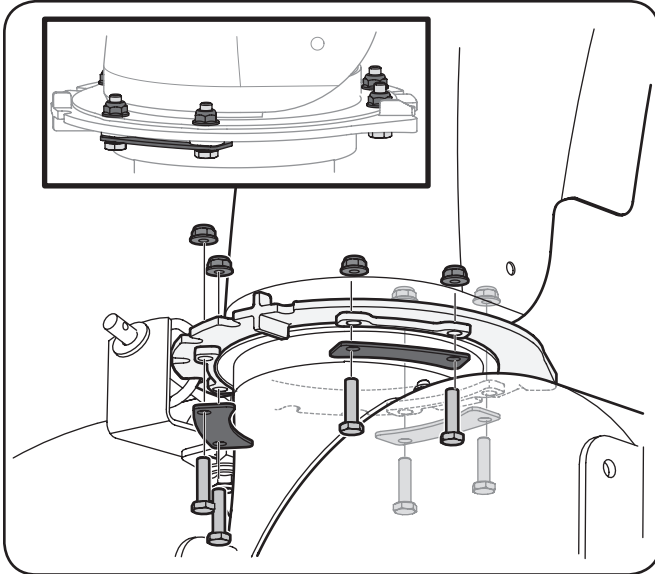

**Figure 3-17**
3. Position the chute assembly (facing forward) on the chute ring. See Figure 3-17.